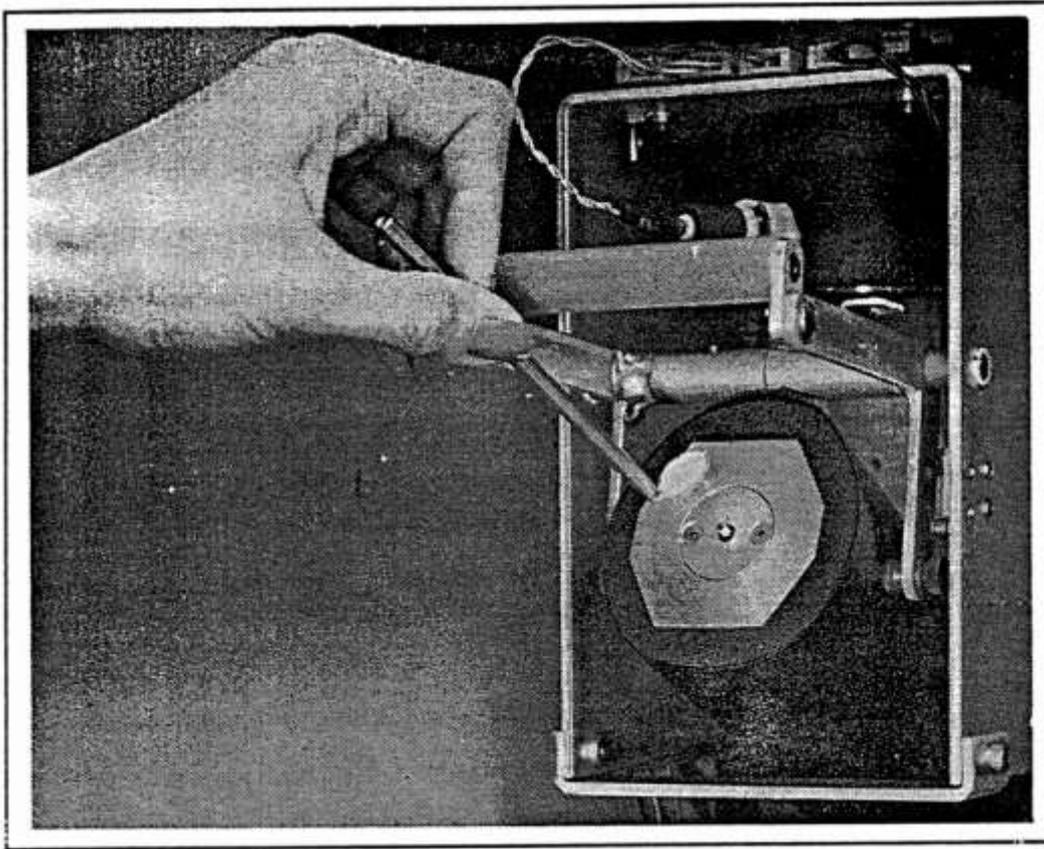

Figure 18-4 TEOM Filter Installation (with Mass Transducer in open position)
8. Hold the new filter in line with the tapered element and lightly insert the hub of the filter onto the tip of the tapered element. Apply a gentle downward pressure to set the filter firmly in place (Figure 18-4) and then carefully retract the exchange tool. Problems with excessive response noise may be experienced if the filter is not seated correctly and firmly on the tip of the tapered element. The filter should, therefore, be positioned with particular care.